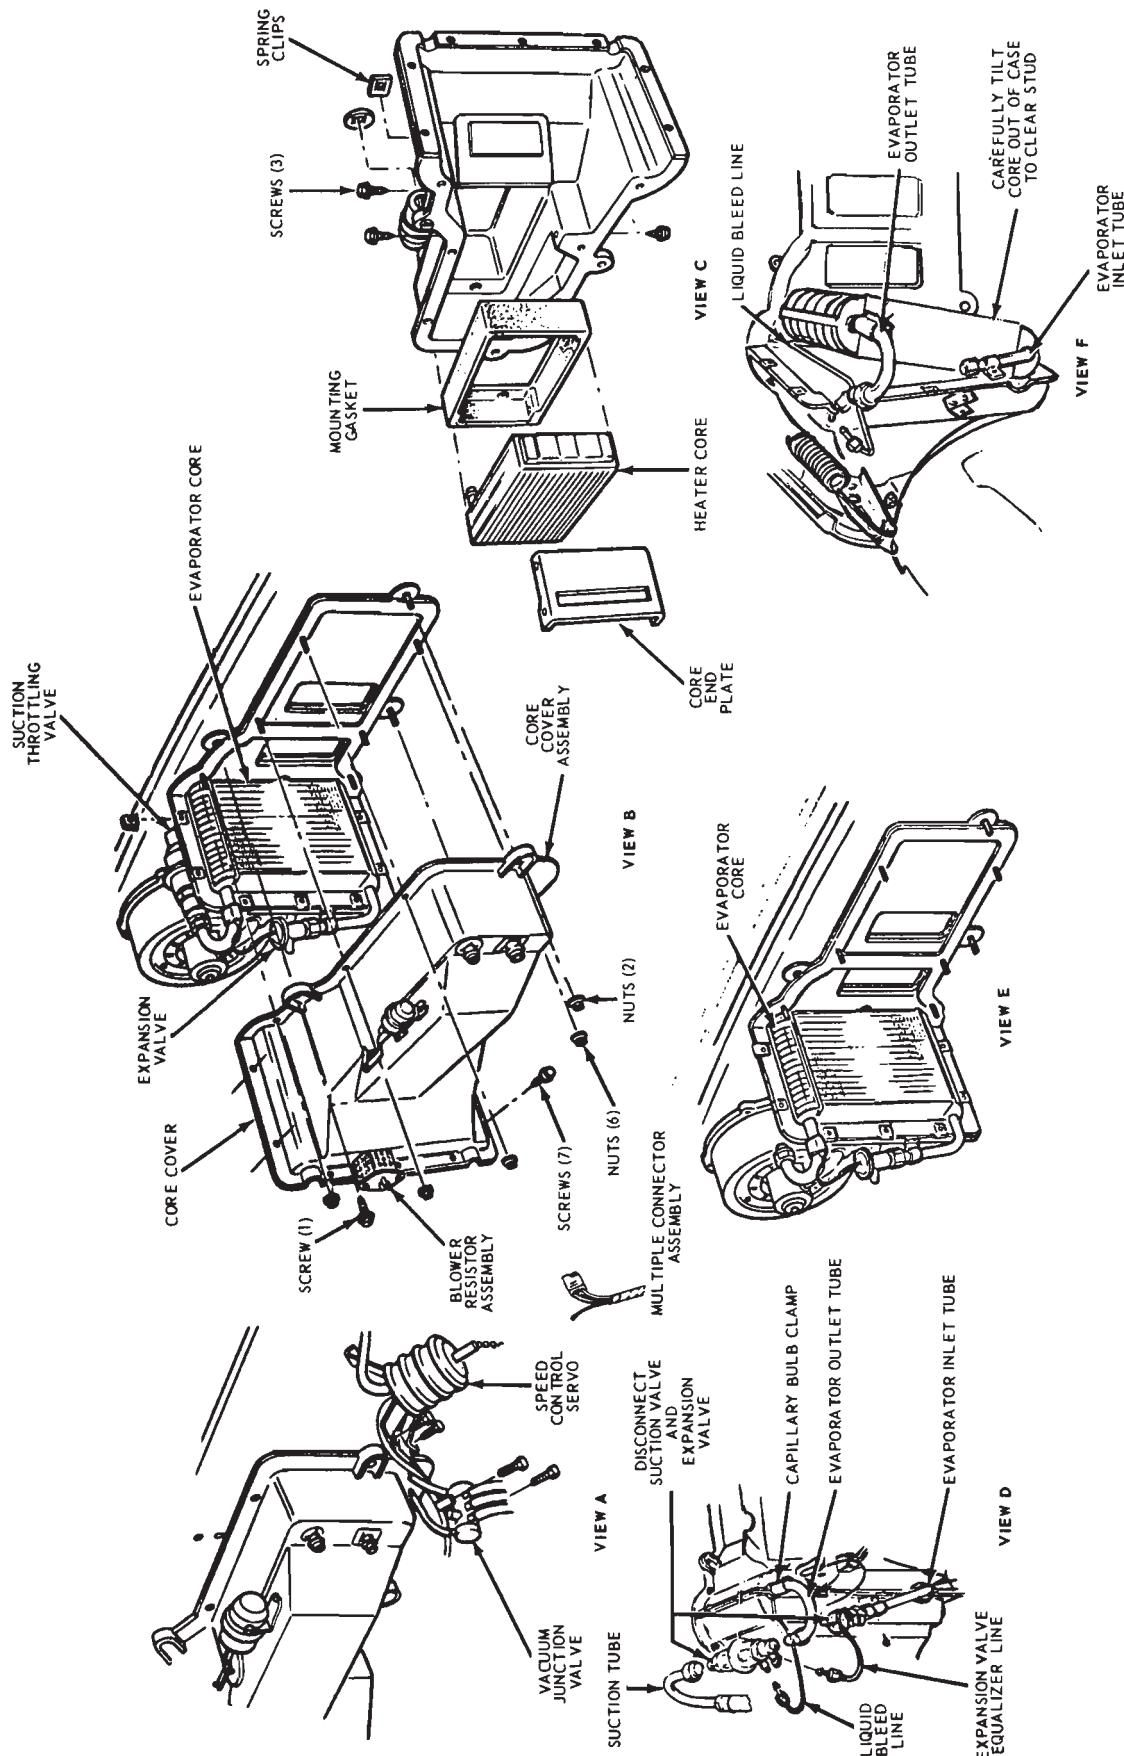

FIG. 59—Manual A/C-Heater System Evaporator and Heater Core Removal—Lincoln Continental
3. Disconnect the suction throttling valve from the suction tube, evaporator outlet tube and liquid bleed line. (Fig. 59, View D).
8. Disconnect the vacuum junction valve from the dash panel and move the valve and vacuum hoses away from the case. (Fig. 59, View A).
11. Disconnect the vacuum hose (tan) from the Restrictor Air Door (3) vacuum motor.
17. Tilt the evaporator core inboard and pull the core upward slowly to clear the studs. (Fig. 59, View E and F).
1. Position the evaporator core in the case assembly (Fig. 59). Make sure the evaporator core liquid bleed line is positioned properly in the detent in the evaporator case back plate and that the core is not damaged on the back plate stud during installation.
5. Disconnect the suction throttling valve from the suction tube (Fig. 59, View D).
Refer to Standard Heating System, Removal and Installation, Group 34-03 and Fig. 59.